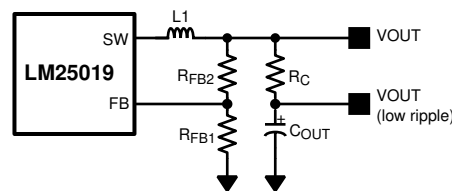

图 7-2. Low Ripple Output Configuration
This regulator regulates the output voltage based on ripple voltage at the feedback input, requiring a minimum amount of ESR for the output capacitor ( $C_{OUT}$ ). A minimum of 25 mV of ripple voltage at the feedback pin (FB) is required for the LM25019. In cases where the capacitor ESR is too small, additional series resistance can be required ( $R_C$  in 图 7-2).
For applications where lower output voltage ripple is required the output can be taken directly from a low ESR output capacitor, as shown in 图 7-2. However,  $R_C$  slightly degrades the load regulation.